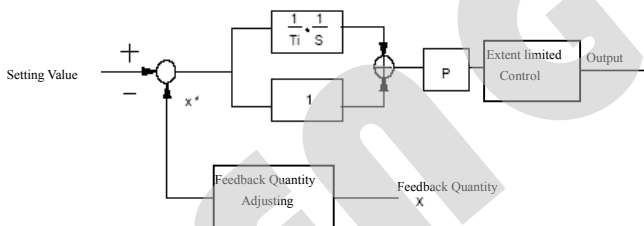

Fig 5-10 PI Adjusting
- Proportion Gain (P) and Integration Time (Ti) as shown in Fig 5-10. Sampling Cycle refers to that of feedback quantity x. Ti as shown here refers to Integration Time. The bigger Ti is, the slower the system responds; the smaller Ti is, the faster the system responds, but it is to surge. Contrariwise with Proportion Gain (P).